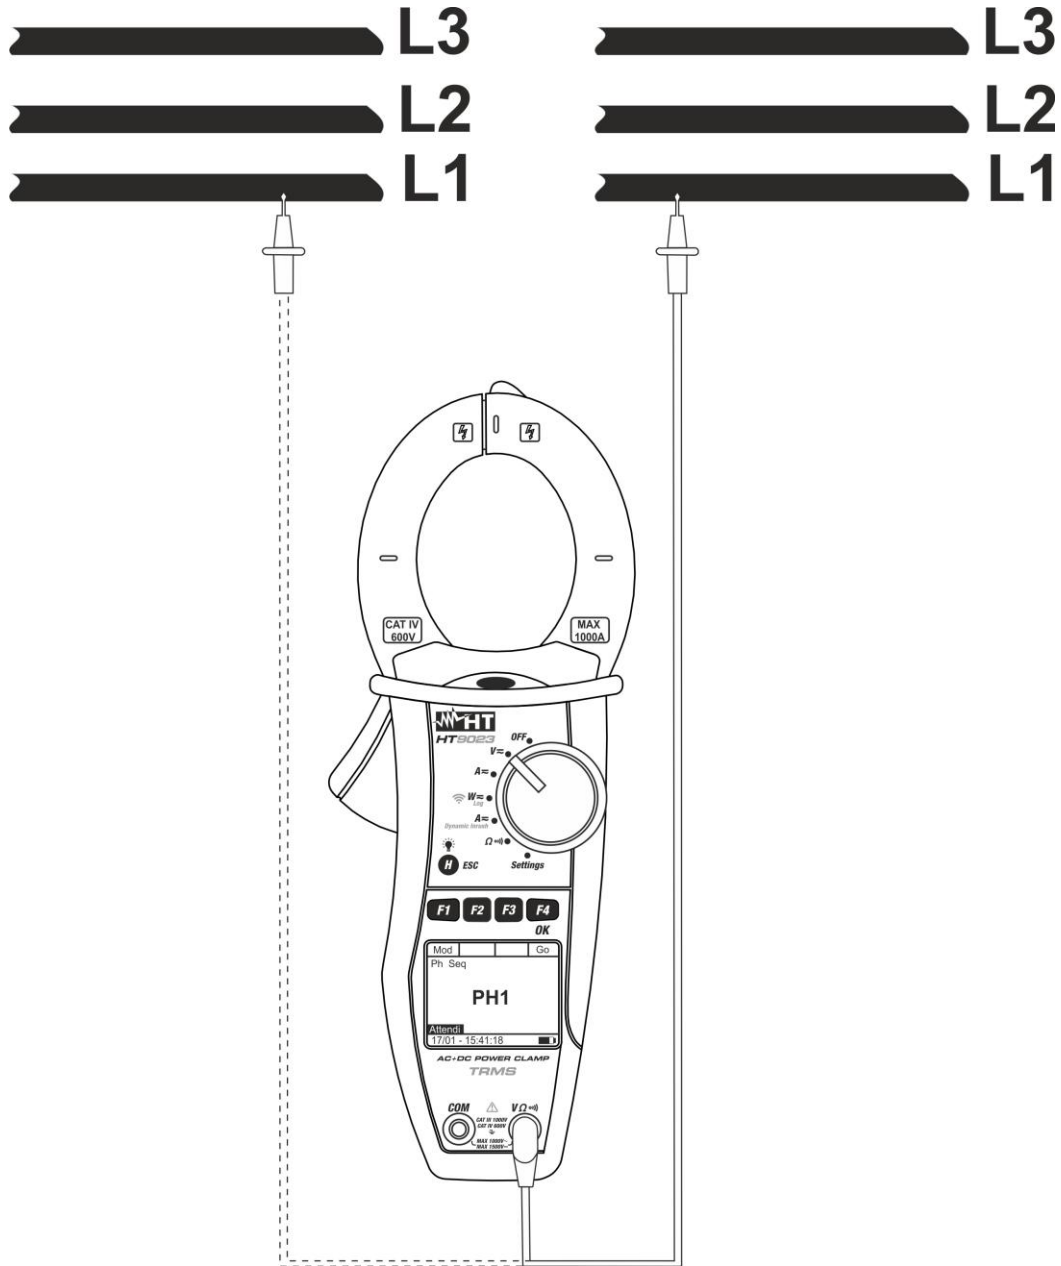

Fig. 8: Verification of phase conformity
2. Connect the red cable to the input lead **VΩ1**) then position the lead **on the L1 phase of the first system** of the circuit under test (see Fig. 8)
5. The message “**PH2**” is displayed and the instrument waits for the detection of L1 phase of the second system. Connect **the test lead to L1 phase of the second system** (see Fig. 8)